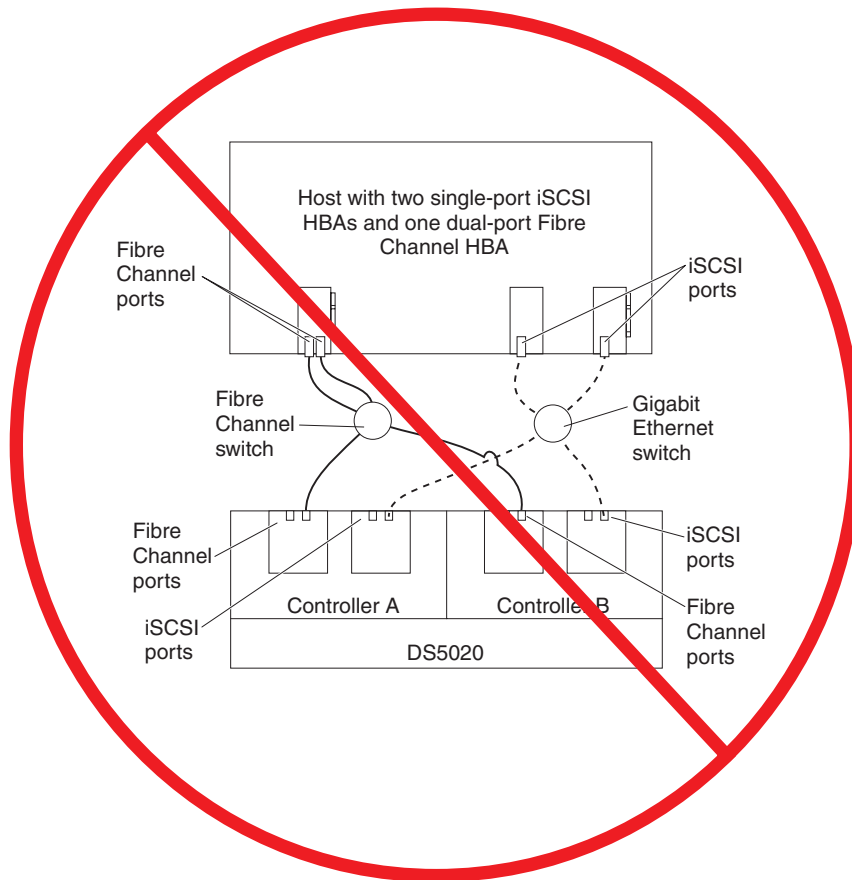

Figure 64. Example of an incorrect configuration: Single-host, iSCSI and Fibre Channel
- Example of an incorrect configuration: Single-host, iSCSI and Fibre Channel, as shown in Figure 64 on page 90
Figure 64 shows an incorrect configuration of a single host with both iSCSI and Fibre Channel connections.
Important: Do not cable the storage subsystem and host systems as shown in Figure 64. A storage subsystem with the incorrect storage topology might appear to be functional, but incorrect cabling can potentially have unpredictable results.